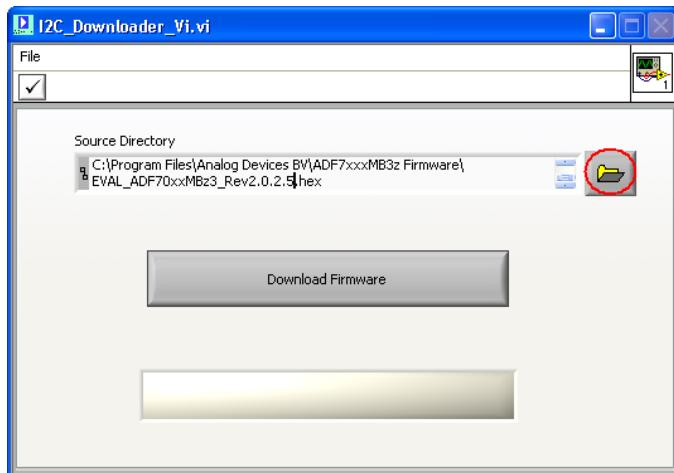

Figure 23
3. Select the desired firmware version “*EVAL_ADF7XXXMB3Z_Rev_2.0.2.5.hex*” from the default directory (Figure 23).